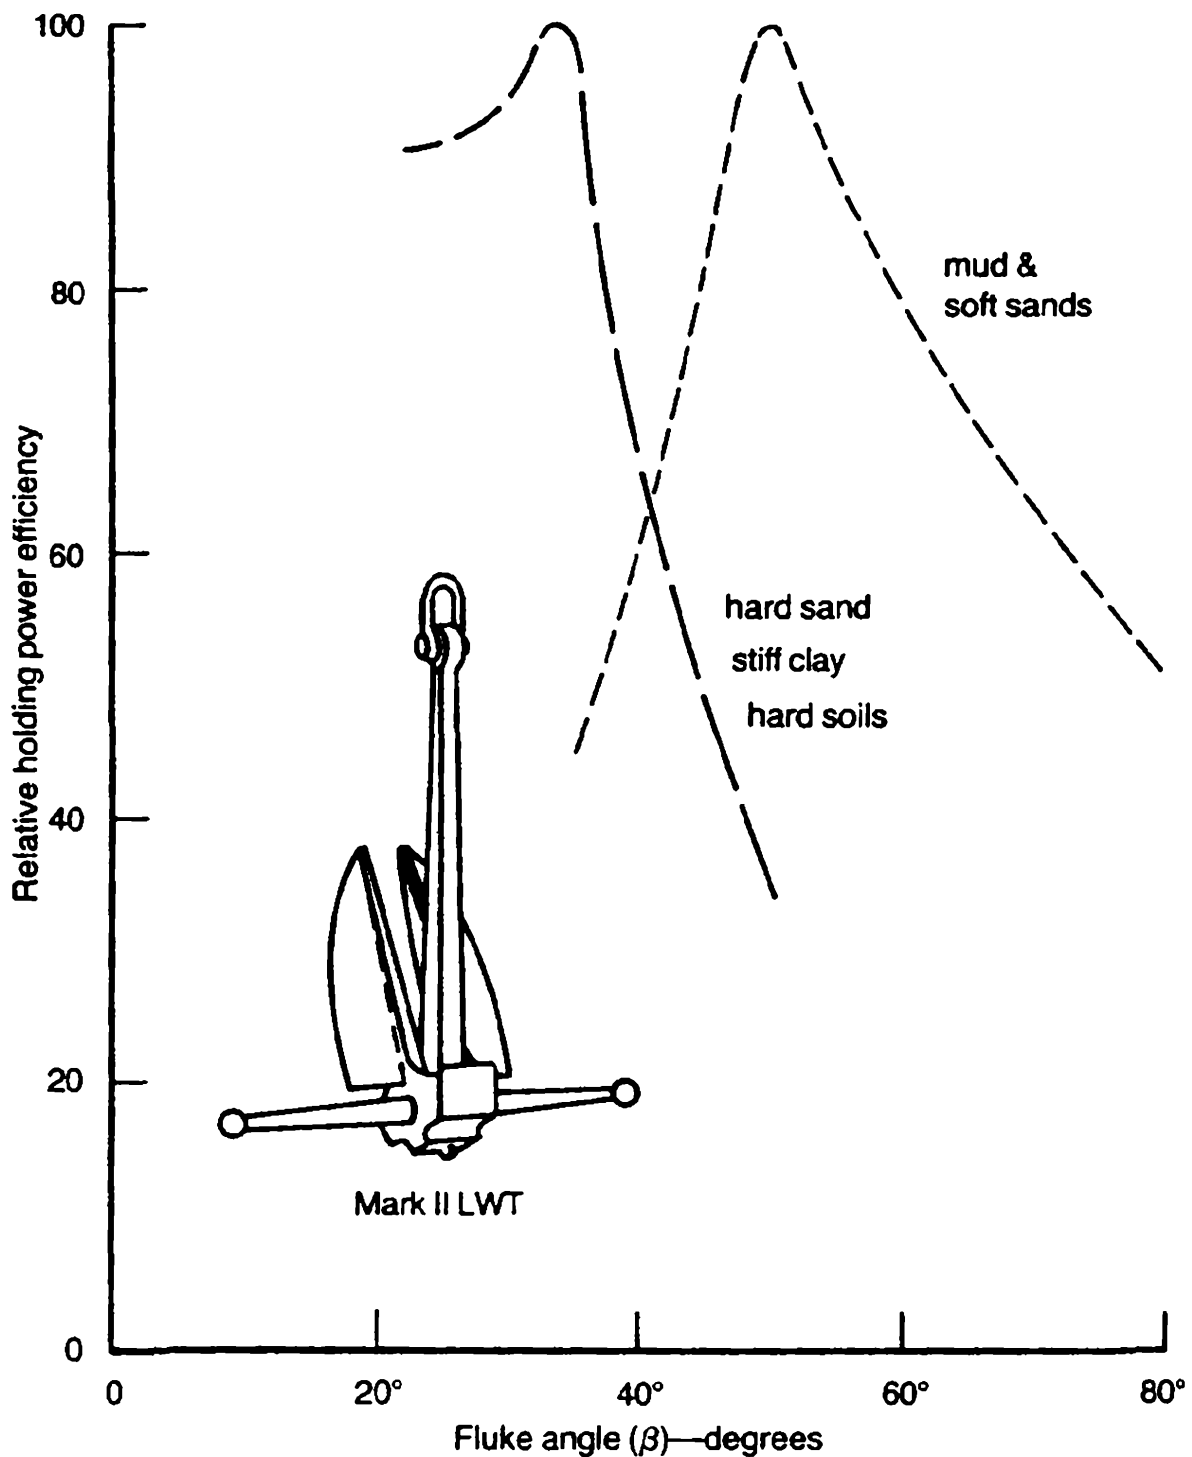

Fig. 6-6. Effect of fluke angle on holding power. Navy MK II anchor.
U. S. Navy Mark II anchor* which is a heavy version of the Danforth lightweight anchor (Fig. 6-6). Two things are apparent from the data—the optimum fluke angle varies greatly depending on the nature of the